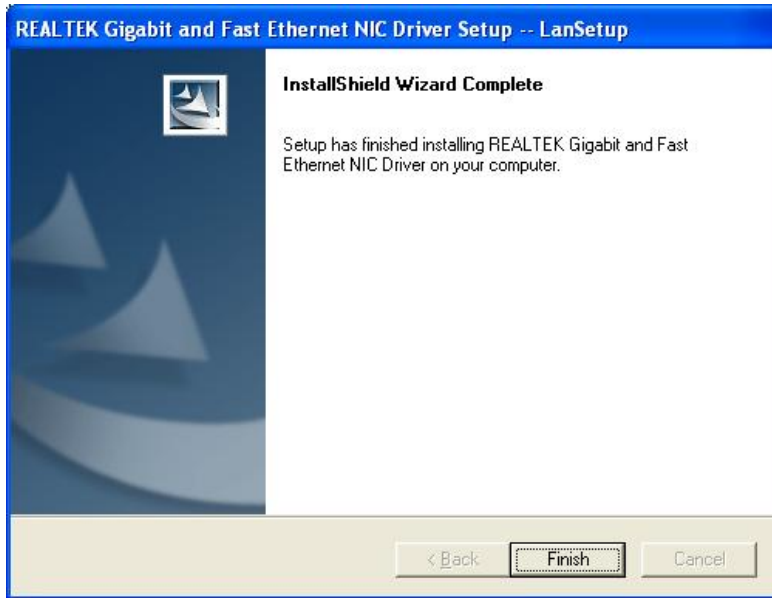

Figure 6-24: LAN Driver Installation Complete
Step 3: To continue installing click **Next**. The driver will be installed and a confirmation screen will appear at the end of the installation. (**Figure 6-24**)